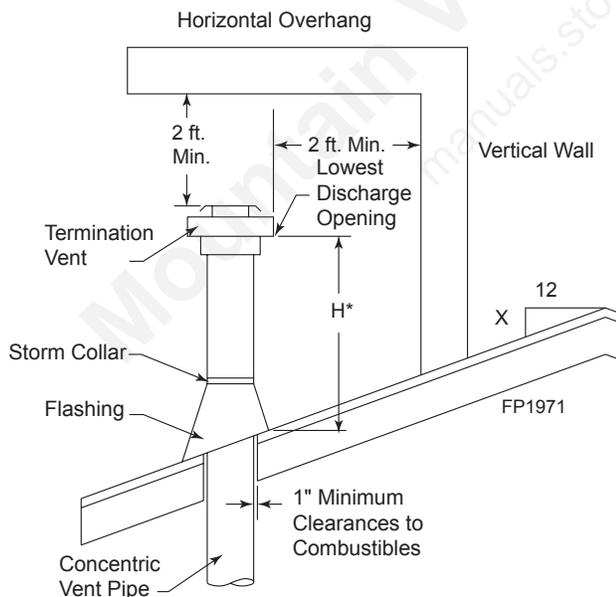

Figure 26 -
6. Continue to add pipe sections until the height of the vent cap meets the minimum building code requirements as shown in *Figure 26.*